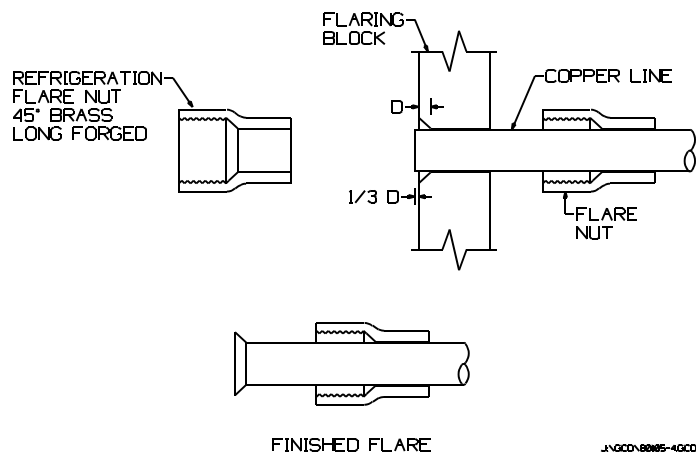

Figure 10 Flaring Copper Tubing
4. Insert the tubing in the flaring block as shown in Figure 10. The tubing should extend no more than 1/3 of the depth of the flare block flare. If too much tubing extends above the block then the flare will be too large and